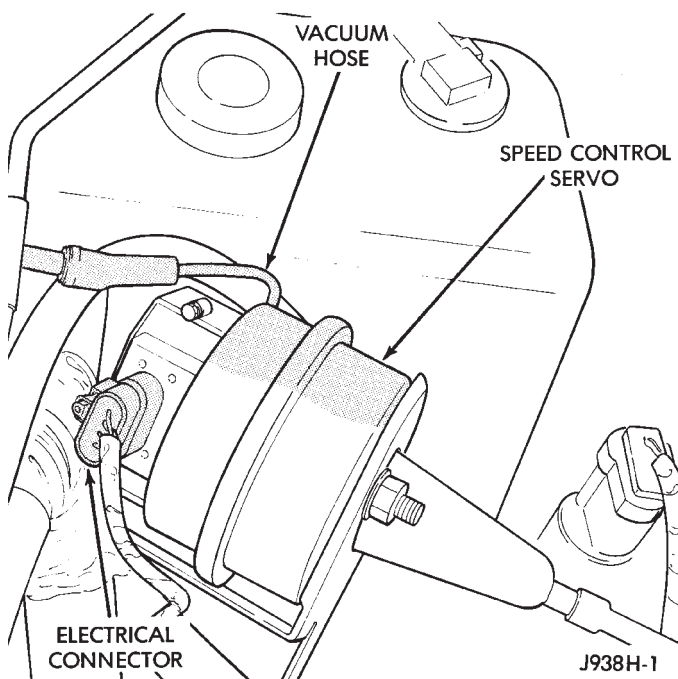

Fig. 2 Servo And Harness Connector
(1) Turn ignition switch to the ON position.
(2) Push the speed control switch to the ON position.
(3) Connect the negative lead of a voltmeter to a good chassis ground near the servo.
(4) Disconnect the 4-way connector going to the servo (Fig. 2). The blue wire with the green tracer of the main harness 4-way connector should read ap-